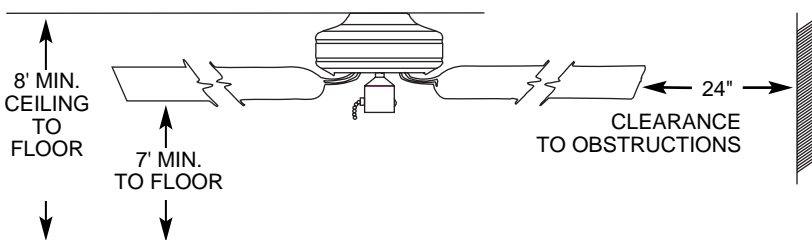

FIGURE 1
B. Installation hardware is included for a standard drywall or plaster ceiling. You will need a 4" x 1½" or 4" x ½" outlet box and wire nuts (2) which can be purchased from any hardware store or electrical supply house.
C. The fan blades must be mounted at least 7' above the floor. For maximum efficiency, they should not have any obstruction (walls, posts, etc.) within 24" of the blade tips. See Figure 1 for mounting distances.